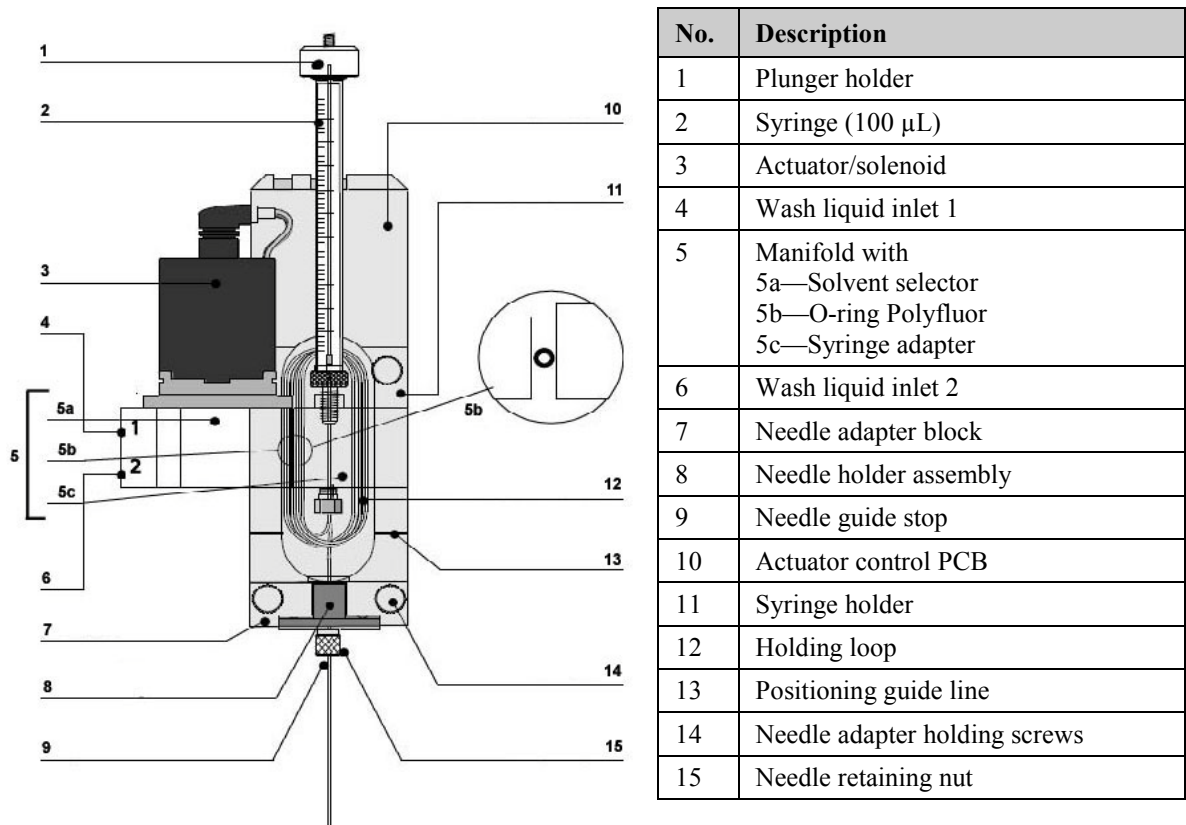

Fig. 19: DLW syringe holder assembly
Fig. 19 provides an overview of the DLW syringe holder assembly.
Loosen the needle retaining nut (→ Fig. 19, page 29), remove the needle from the assembly, and set it aside. Be careful not to lose the retaining nut and the needle seal that is installed on the syringe end of the needle.
- c) Unclick the needle holder assembly (→ Fig. 19, page 29), by pulling it toward the front, insert the needle tip into the needle guide, and then click the needle holder assembly back into place.